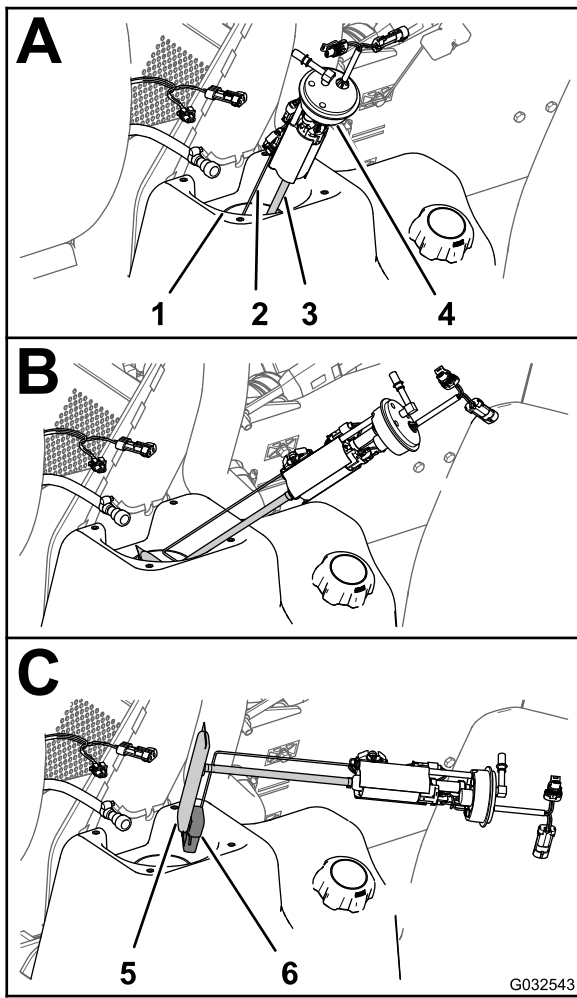
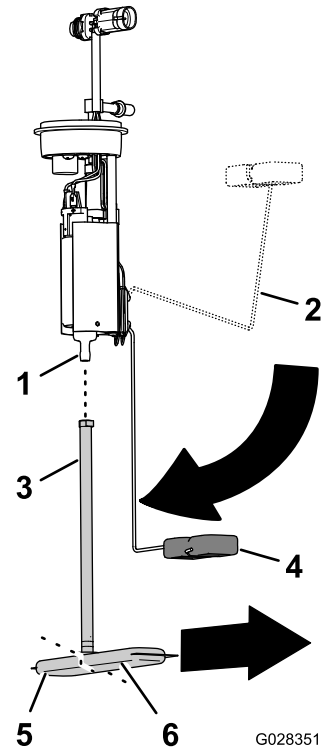

Figure 120
Figure 121
4. Carefully lift and rotate the fuel pump/sending unit out of the neck of the fuel tank (Figure 120).
1. Remove the pickup tube of the fuel filter from the fitting of the fuel pump (Figure 121).
2. Align the pickup tube of the new fuel filter with the fitting of the fuel pump (Figure 121).
3. Align the long leg of the fuel filter with float when the float arm is in the empty position (Figure 121).
4. Insert the fuel-pump fitting into the pickup tube until the fitting is fully seated (Figure 121).
1. Support the float arm and pickup tube together and slip the float and fuel filter into the opening in the fuel tank (Figure 120).
2. Seat the fuel pump/sending unit into the opening in the tank (Figure 120 and Figure 121).
3. Install the seal and nut over the fuel pump/sending and onto the neck of the fuel tank and tighten the nut hand tight (Figure 120).
4. Connect the coupling on the fuel hose to the fitting of the fuel pump (Figure 120).
5. Connect the 2-socket connector of the machine-wiring harness to the 2-pin connector of the fuel pump/sending unit; Connect the 2-pin connector of the machine-wiring harness to the 2-socket connector of the fuel pump/sending unit (Figure 120).